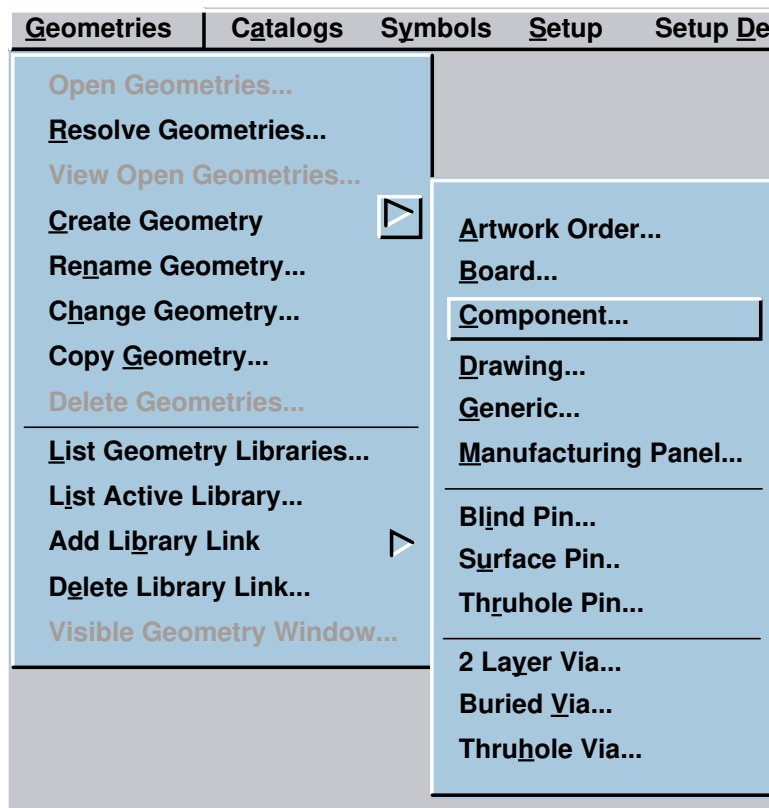

Figure 3-2. Geometries Pulldown Menu
1. Specify the type of geometry you want to create by choosing a geometry type from the **Geometries > Create Geometry** pulldown menu, as shown in Figure 3-2.